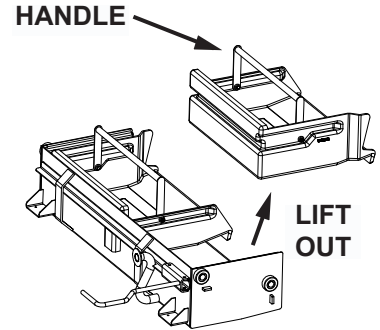

Fig. 3
- Using the lift handle remove the hoppers from the hopper cradle and empty the debris into an appropriate container. (See Fig. 3)